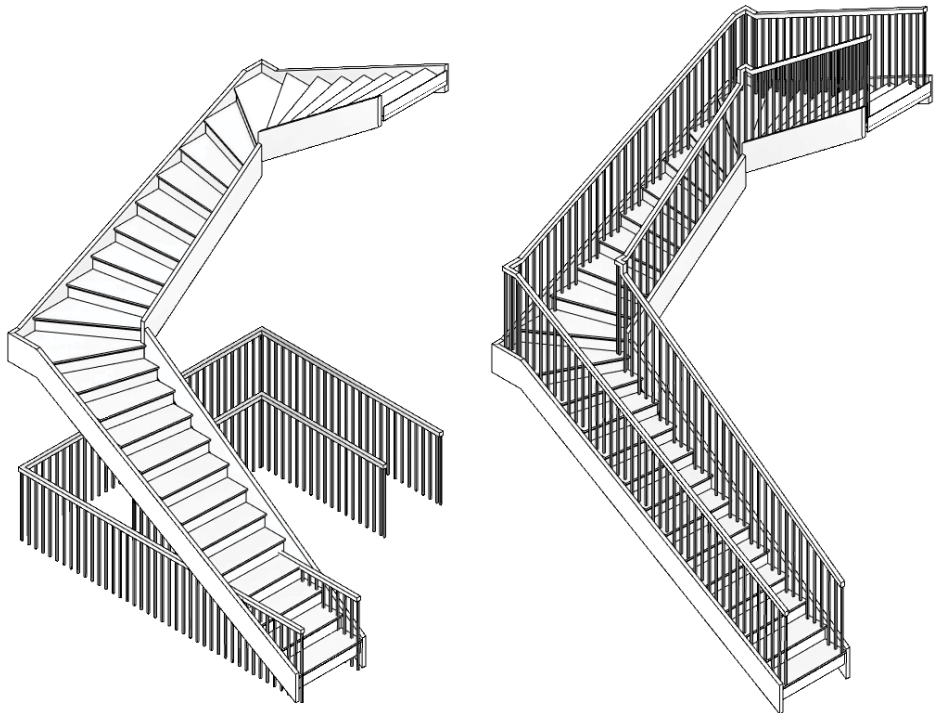

FIGURE 4.23 Railing before and after new host
10. Click Pick New Host for the second railing to complete the new railing host (Figure 4.23).